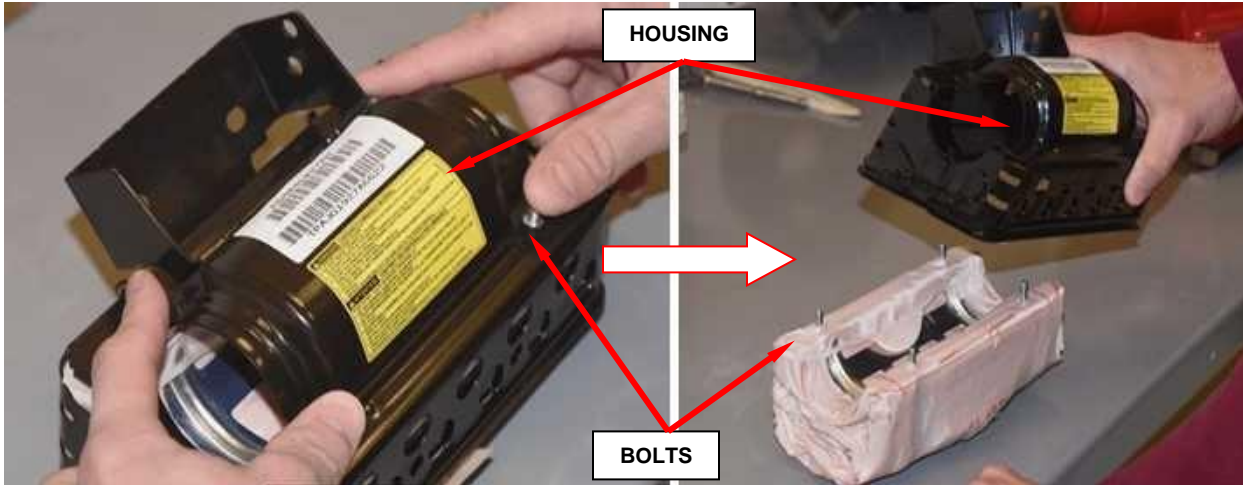

Figure 38 - Remove Airbag Cushion from Housing
- g. Remove airbag cushion from housing by applying pressure to the bolts, set cushion aside (Figure 38).